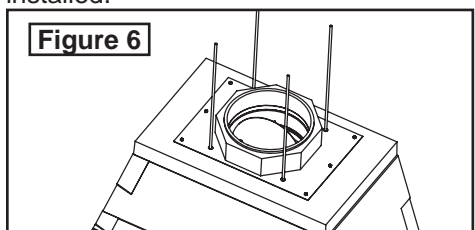

Figure 6
4. For a straight stack that begins directly on top of the unit, start with a the small 4" high inner flue starter section (MCH414-ILS) and continue with 8" tall inner flue sections (MCH814-IL) (**Figures 6, 7 and 8**). When terminating the stack, the inner flue will stick out by 4" and allow for a 4" tall Brick Ledge section to be installed.